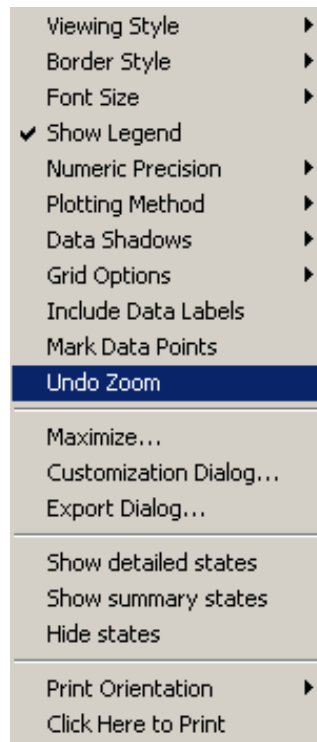

Figure 2.9 Plot options menu
2. To zoom out to the original plot view, right click inside the plot to bring up the plot options menu and select **Undo Zoom** as shown in Figure 2.9.
2. Select *Customization Dialog* (See Figure 2.9)